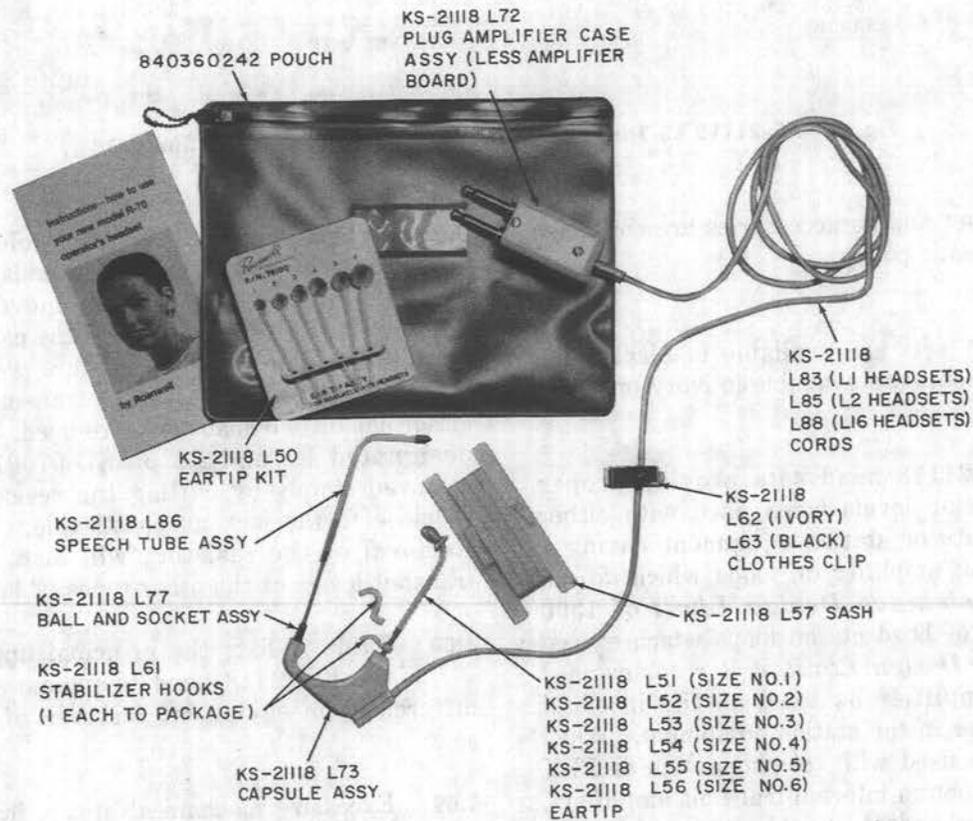

Fig. 1—KS-21118 L1, L2, and L16 Head Telephone Sets (L2 Shown)
1.02 The KS-21118 head telephone sets (Fig. 1 through 4) are lightweight sets which are supported by the ear. Miniature magnetic transducers are used for the transmitter and receiver units. The L1 through L16 headsets are identical to the L21 through L36 sets except for the shape of the plastic capsule. An instruction book is furnished with each headset illustrating how the headsets should be worn.
4.01 Fig. 1 through 4 and 6 through 9 show the relationship of the various parts of the head telephone sets. The replacement part numbers of these parts are given together with the names as listed by the Western Electric Company Merchandise Department.